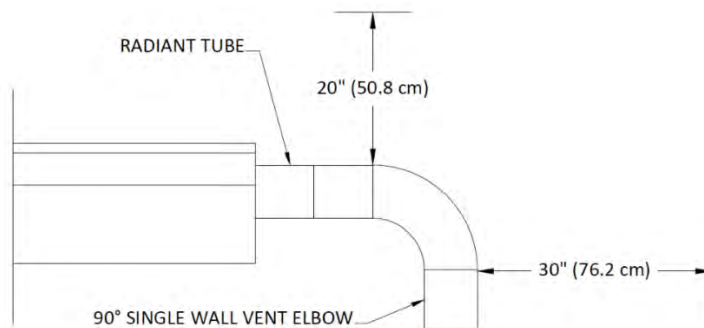

Figure 53. END CLEARANCES UNVENTED INSTALLATIONS
- 4) Maintain clearance to combustibles at exhaust (vent) end as noted in Figure 53.